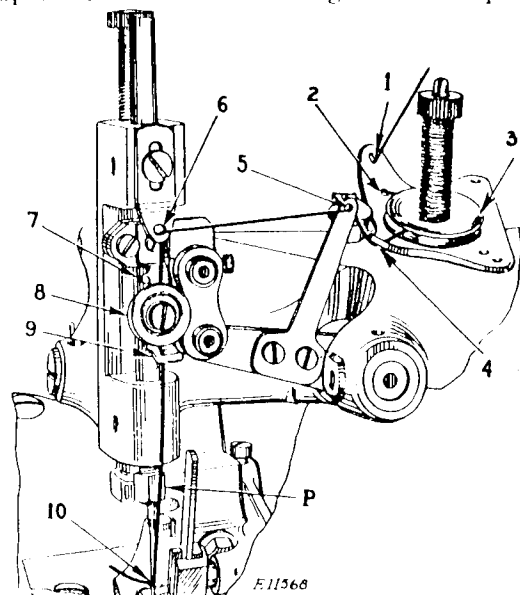

FIG. 7. THREADING THE NEEDLE
Loosen the clamping nut (P, Fig. 7) at the lower end of the needle bar and put the needle up into the bar as far as it will go, with the clearance above the eye at the back, or farthest from you. Then tighten the clamping nut (P).
Machine 81K76 is regularly equipped with these parts, excepting spreader 132631, and should be threaded as shown in Fig. 7 when making either the two or three-thread stitch.